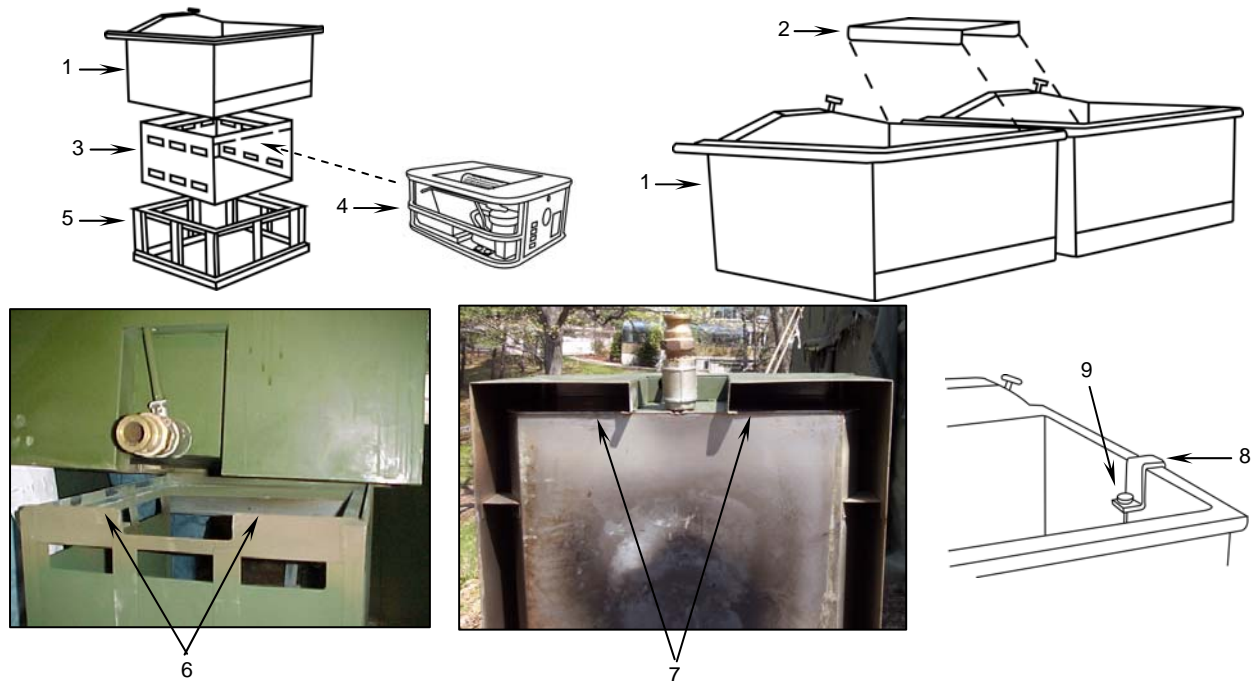

Figure 5. Assembling the Sinks.
- b. Move three sink body assemblies (**Figure 5, Item 1**), sink adapters (**Figure 5, Item 2**), burner racks (**Figure 5, Item 3**) with MBUs in place (**Figure 5, Item 4**), and base racks (**Figure 5, Item 5**) to the sink locations.
- c. Place the base rack (Figure 5, Item 5) about 5 inches apart from each other and 2-ft from the tent wall.
- d. Place the burner rack (Figure 5, Item 3) on top of base rack (Figure 5, Item 5).
- e. Place the sink body assembly (Figure 5, Item 1) on top of burner rack (Figure 5, Item 3). Ensure the tabs on the back of the burner rack (Figure 5, Item 6) are inserted in the flue of the sink body assembly (Figure 5, Item 7).
- f. Connect sinks with adapters (Figure 5, Item 2).
- g. Place burners (Figure 5, Item 4) in burner racks (Figure 5, Item 3). Ensure burners are pushed all the way into racks.
- h. Attach thermometer bracket (Figure 5, Item 8) to front or side; install thermometer (Figure 5, Item 9) in sink assemblies to be used.